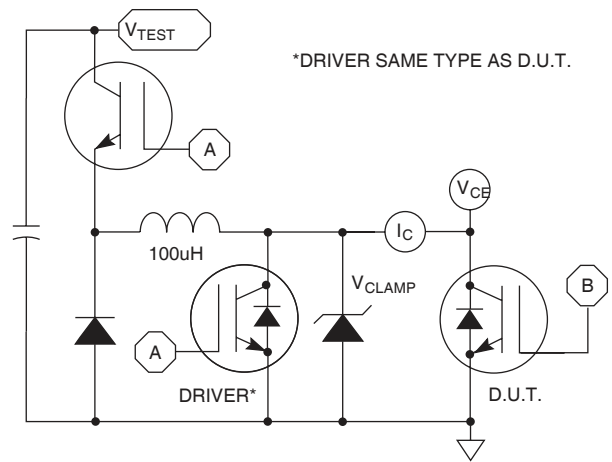

Figure 24, E_{ON1} Test Circuit
- ① Repetitive Rating: Pulse width limited by maximum junction temperature.
- ② For Combi devices, I_{ces} includes both IGBT and FRED leakages
- ③ See MIL-STD-750 Method 3471.
- ④ E_{on1} is the clamped inductive turn-on-energy of the IGBT only, without the effect of a commutating diode reverse recovery current adding to the IGBT turn-on loss. (See Figure 24.)